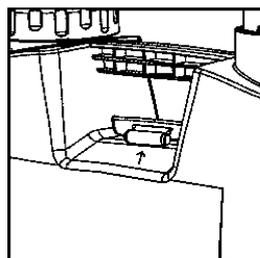

fig.2
- 4.1.3. Pull back the carrying strap until it snaps into place and is prevented from sliding out (fig.2).